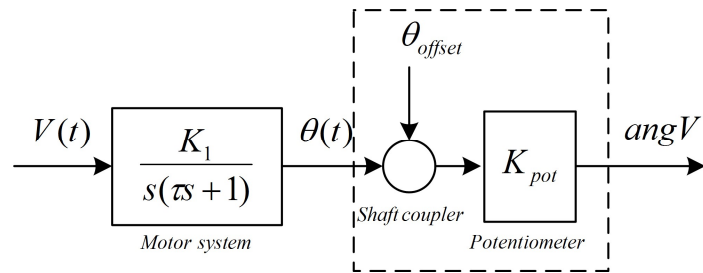

FIGURE 9: Nonlinearity introduced by servo-angle potentiometer
- (c) The motor gear angle is measured using a potentiometer. It is necessary to convert the potentiometer voltage to the corresponding gear angle in **radians**. This relationship is nonlinear due to an offset, as shown in Figure 9. You should invert this nonlinearity in software (referred to as “sensor scaling” in cRIO-9076_RT.vi), so that the overall system is linear. To implement the gear angle scaling, first experimentally determine the gain and offset for your apparatus. Then, write the necessary code in the formula node of the cRIO-9076_RT.vi file to compute the gear angle in radians.